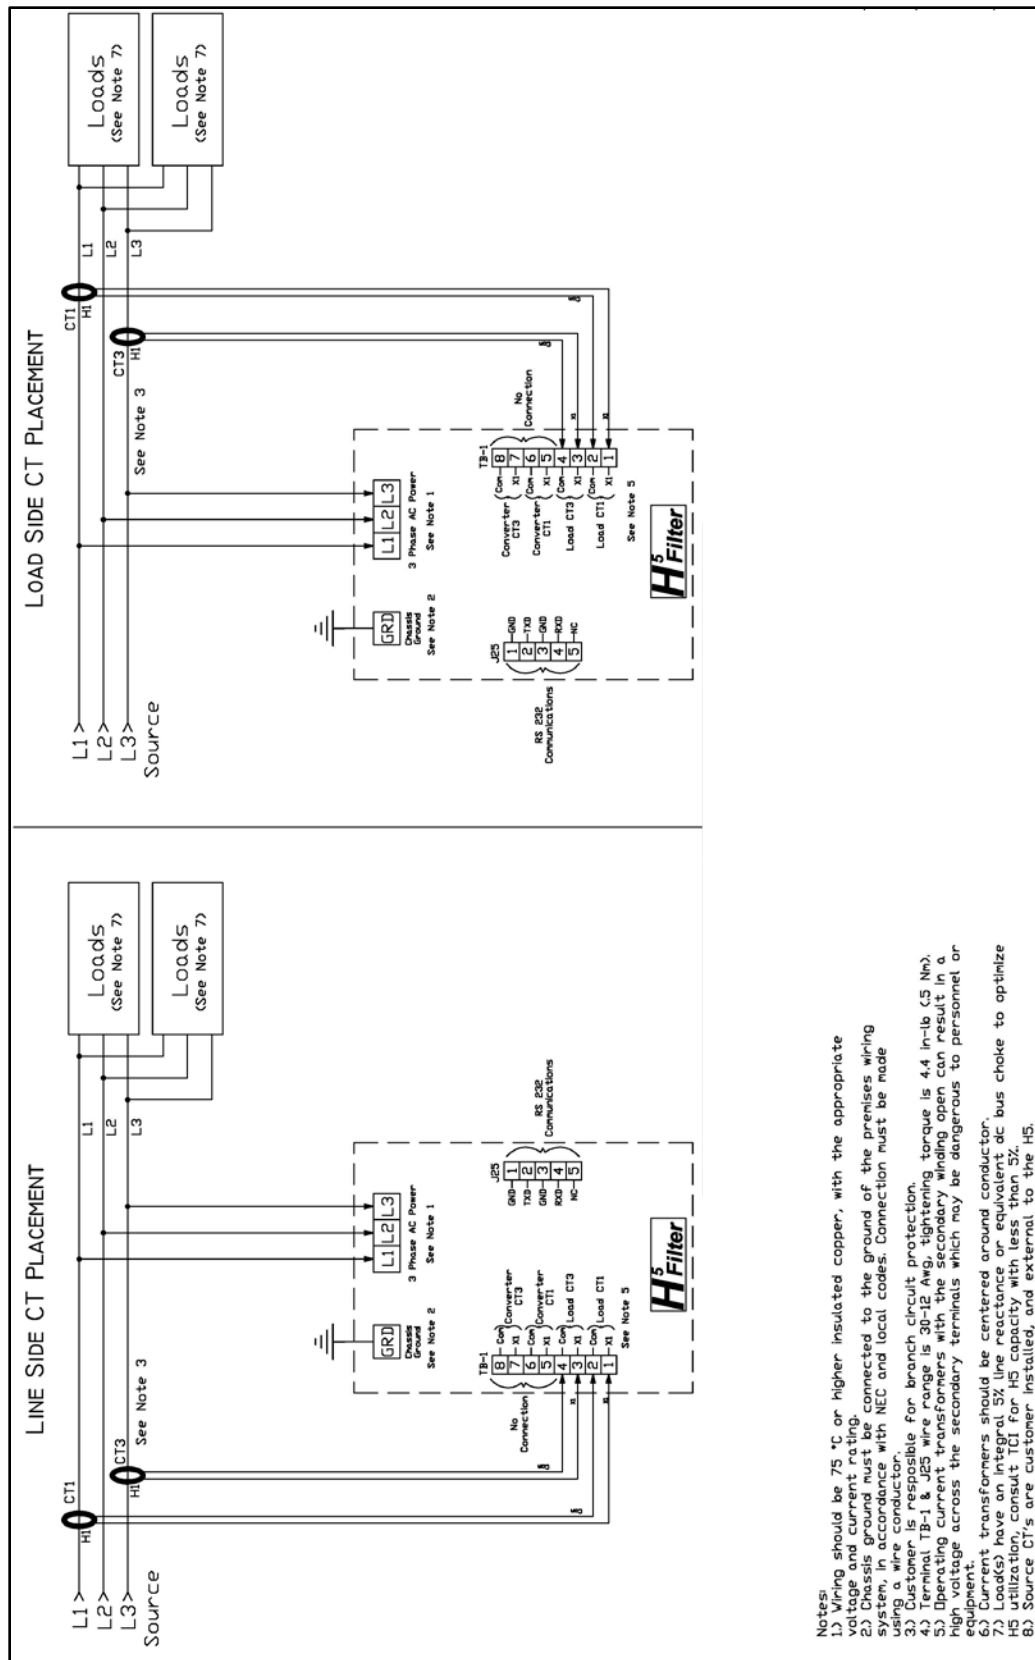

Figure 4.4a – Line Side or Load Side CT Placement – 45, 50, 90 and 100 amp, 480 volt
It is necessary for the HGA to monitor the current in Phase “A” (L1) and Phase “C” (L3). Stand-alone HGA filters are designed for Line Side current transformer (CT) placement as shown in Figure 4.4a. It is important that both CTs are on the same side of the HGA. The CTs should be centered around the conductor. Optional Load Side CT placement is available for single units as shown in Figure 4.4a.
The exact CT placement is dependent on the HGA’s configuration and size. Please refer to **Figures 4.4a through 4.4f** for the installation that applies.
Figure 4.4a illustrates Line Side or Load Side CT Placement for stand-alone HGA filters rated at 45 to 100 amps, 480V.